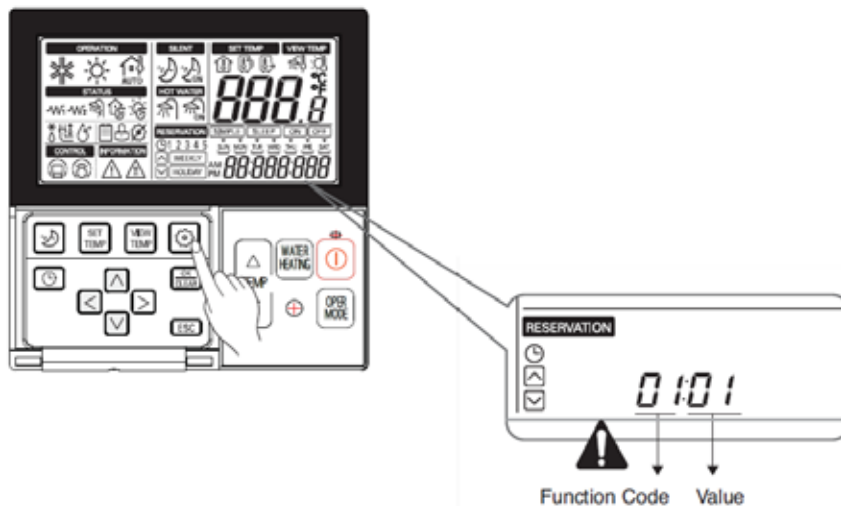

Figure 58: Entering Installer Setting Mode
- Controller display will initially show the first function code and value (example: **01:01**) at the bottom of the LCD screen (see Figure 58).